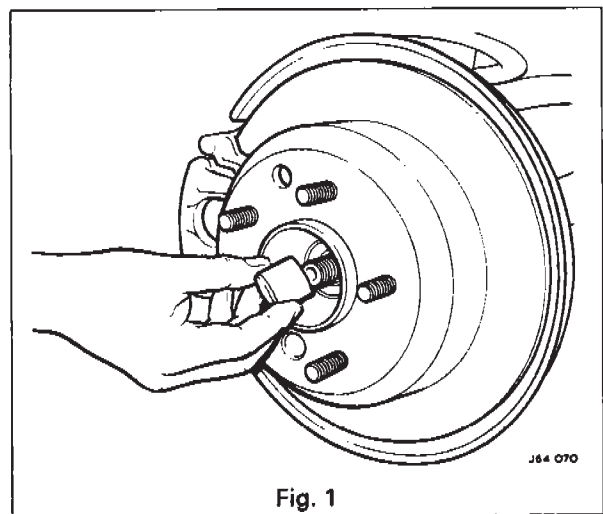
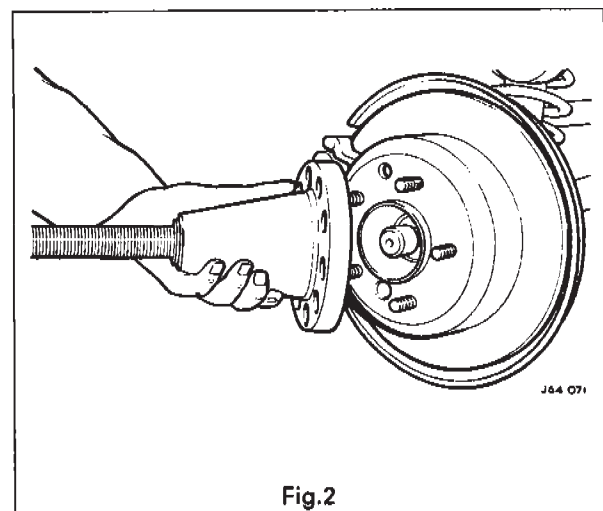

Fig. 1
Fig.2
- With service tools JD 1D/7 (Fig. 1) and JD 1D (Fig. 2), push shaft through hub.